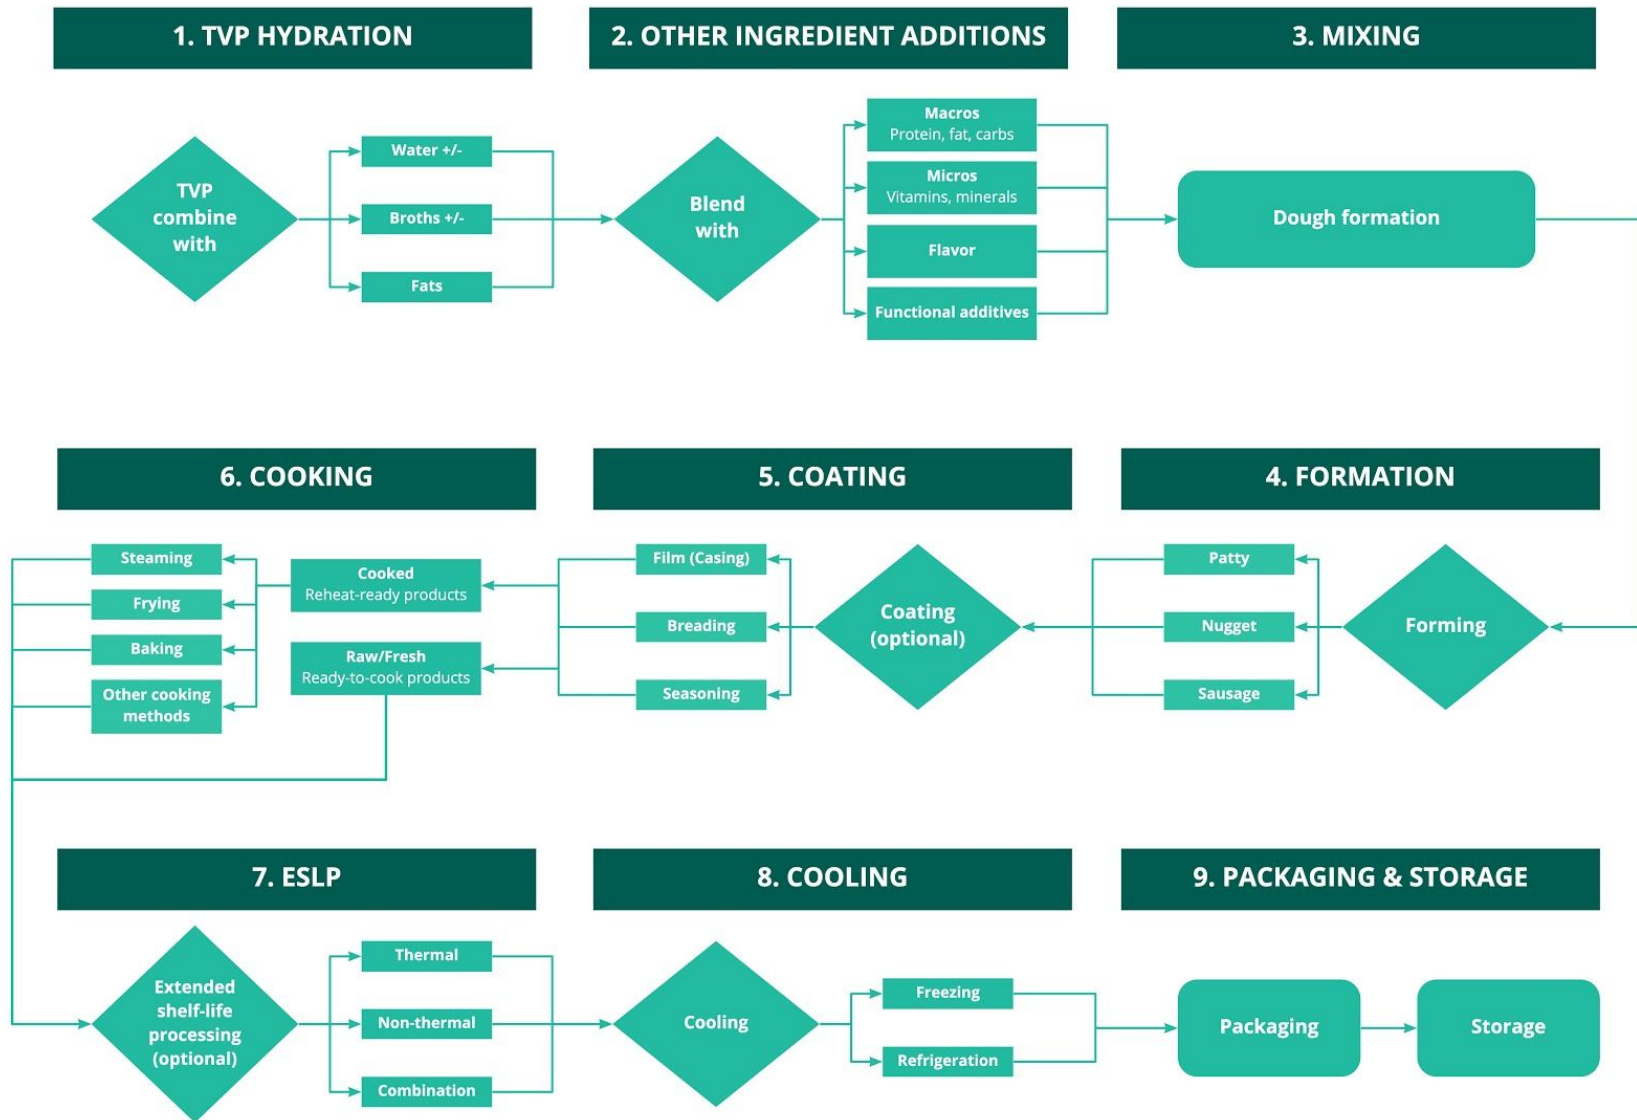

Figure 4. Process flow diagram for restructured meat products
**Steps 1 - 9 below follow the figure 4 illustration, “Process flow diagram for restructured meat products” found on page 11.**